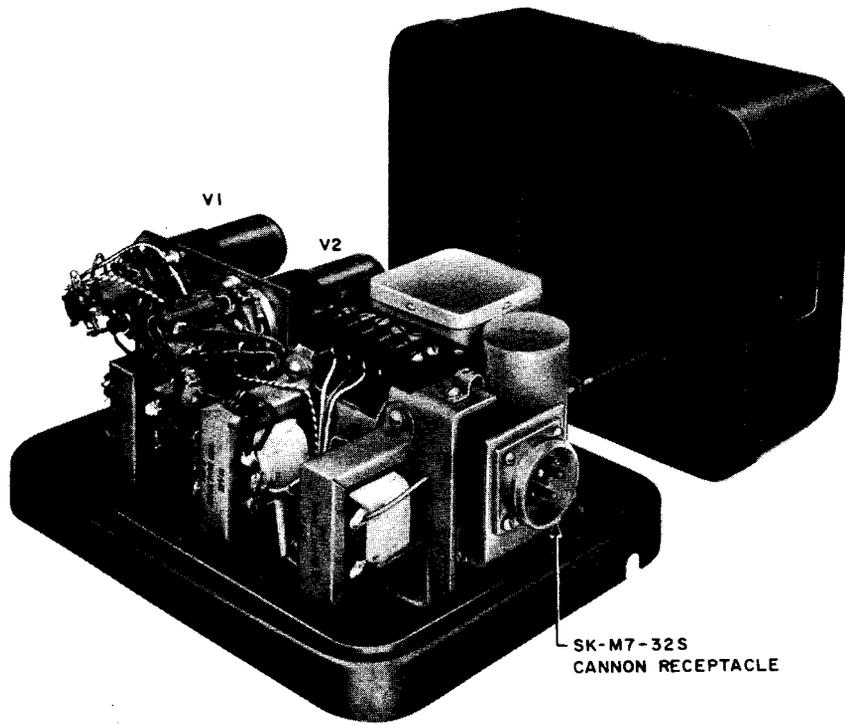

Fig. 2 - 50-Type Recorder Connector
3.01 The 50-type recorder connector (Fig. 2) consists of an assembly of electronic apparatus mounted on a base approximately 9-5/8 inches high by 7-1/8 inches wide with a metal cover approximately 4 inches deep. A 7-pronged receptacle is permanently attached to the recorder connector into which a customer-owned voice recorder or KS-16730, List 1 recorder connector may be connected.